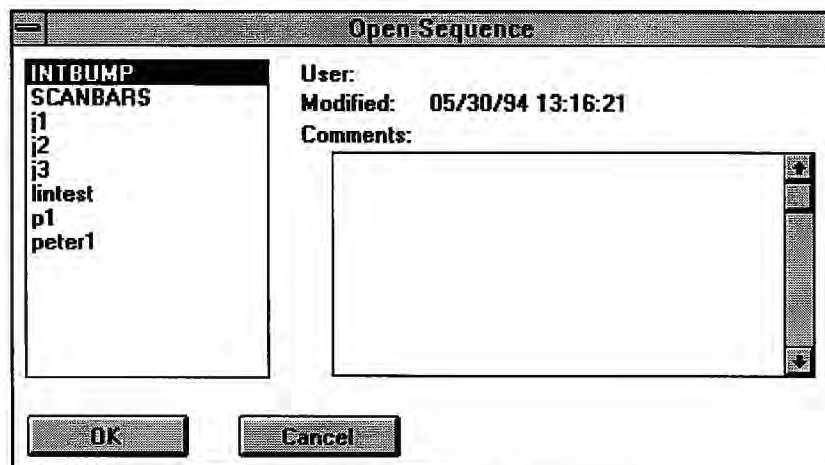

Figure 8-28 Open Sequence Dialog Box
1. In the Sequence Editor window, select Open from the Sequence menu. The following dialog box appears (Fig. 8-28):